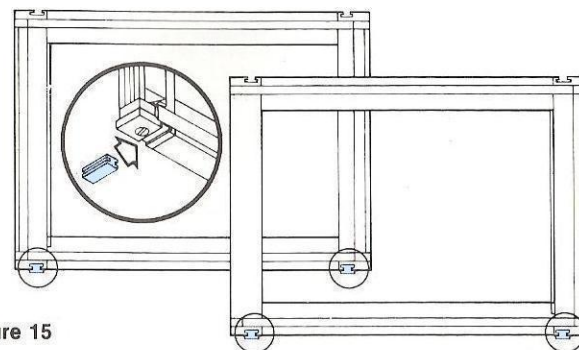

Figure 15
5.2 Push the PTFE slides into the lower corner pieces of each pane (Figure 15).